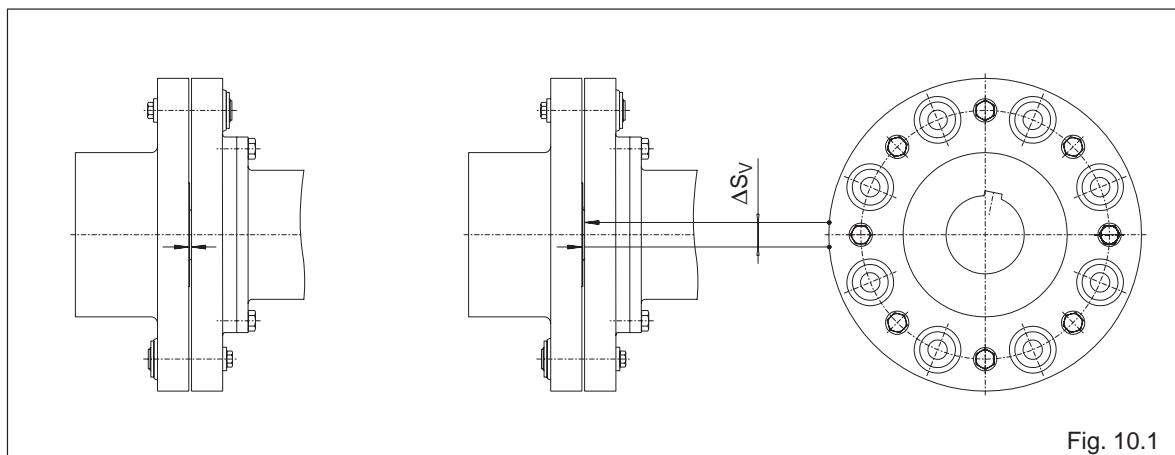

Fig. 10.1
If an increased coupling backlash does not impair the operation of the coupling, the buffers (5) can continue to be used up to a specified wear limit before being replaced. To assess wear, the permitted circumferential backlash, converted to the chord dimension  $\Delta S_V$  on the outer coupling diameter, is shown in table 10.1. To obtain the dimension  $\Delta S_V$ , one coupling part is rotated without torque as far as the stop and a mark applied to both side (see Fig. 10.1). If the coupling part is rotated in the opposite direction of rotation as far as the stop, the marks move apart. The distance between the marks is the chord dimension  $\Delta S_V$ . If the dimension  $\Delta S_V$  exceeds the value in table 10.1, the buffers (5) must be replaced.